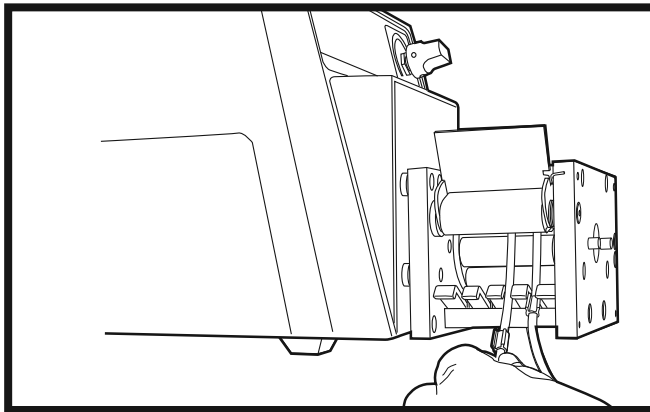

Figure 7. Place tubing stop collar into slot to secure.
3. Place tubing stop collar into slot to secure (Figure 7).